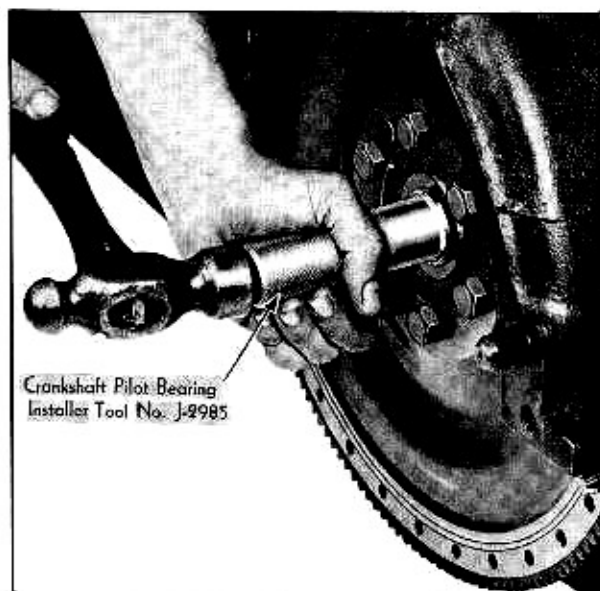

Fig. 10-34 Installing Crankshaft Pilot Bearing
2. Position bearing in line with its bore in crankshaft and drive the bearing into the shaft until the flange of tool touches the crankshaft face, Fig. 10-34.